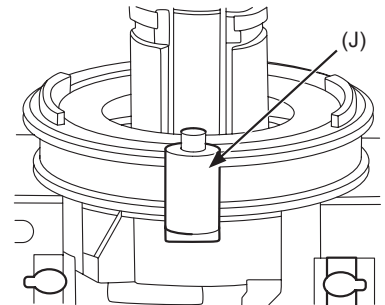

FIGURE 7.1
9. Insert the Roller (J) in the case cavity on the Case (D) (Refer to Figure 7.1). Assembly the Spiral spring (I) around the case cavity and Roller (Refer to Figure 7.2) ensure there are two spring coils against the Roller (J).